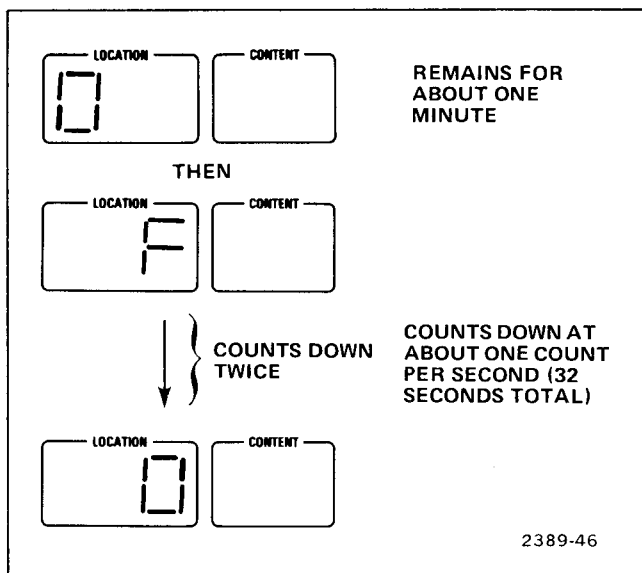

Figure 2-6. RAM check display.
3. Check Figure 2-6 through 2-8 for the correct displays.